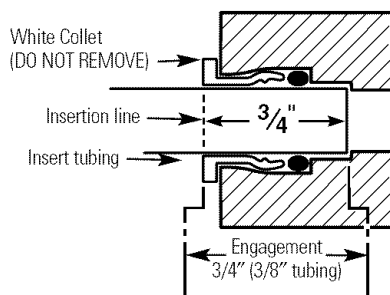

Fig. 9
3. Push the tubing firmly into each fitting on the manifold until the line is flush with the fitting collar. (If the tubing is removed, re-cut the end, measure, mark and re-insert). Tubing must be fully inserted to avoid leaks (Fig. 9). **(To remove tubing: Depress and hold white collet; pull tubing out to remove.)**